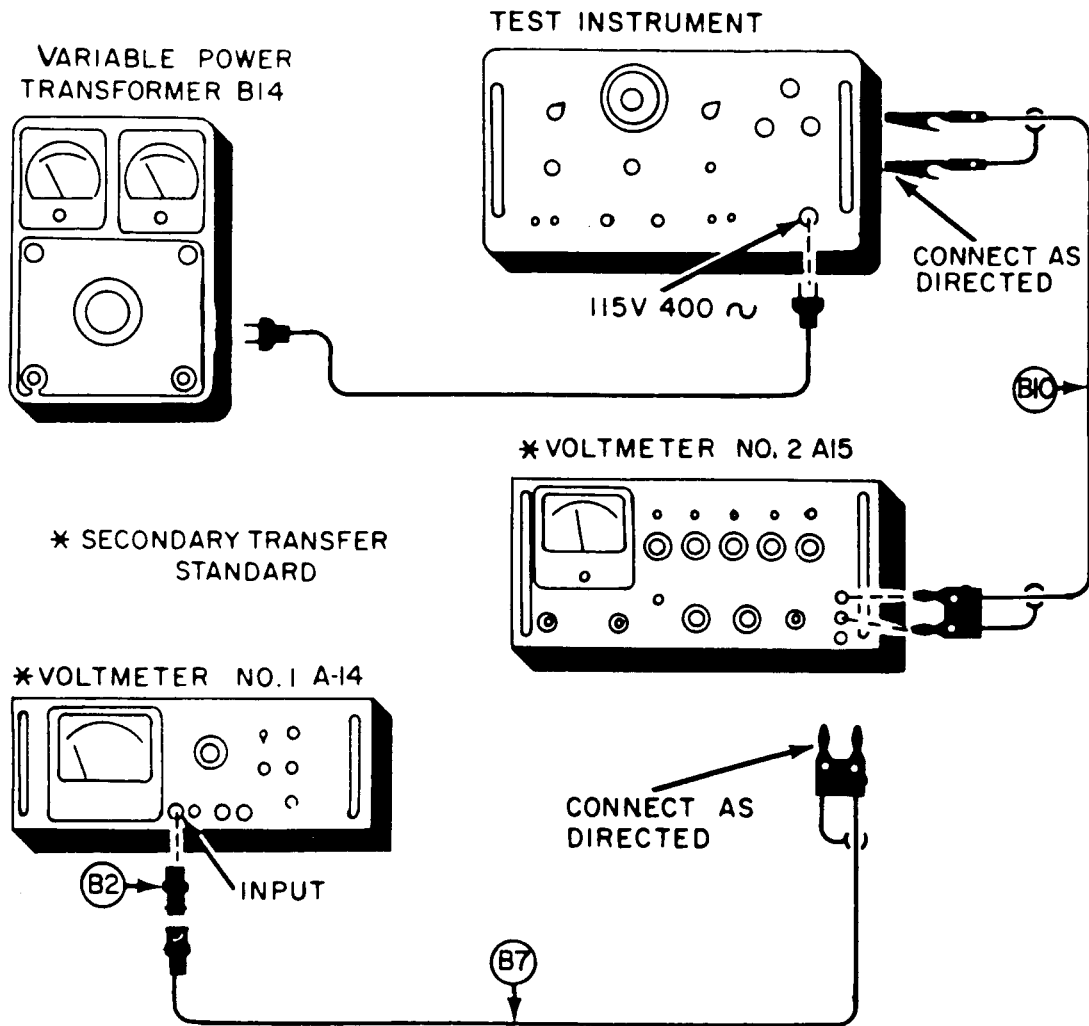

Figure 2. Power supply regulation check - equipment setup.
- b.** Connect the equipment as shown in figure 2.
(1) Connect cable assembly B7 and adapter B2 to Voltmeter No. 1 and connect it to the double banana jack on Voltmeter No. 2 (fig. 2).
(2) Voltmeter No. 1 should indicate no more than 50 mVrms.